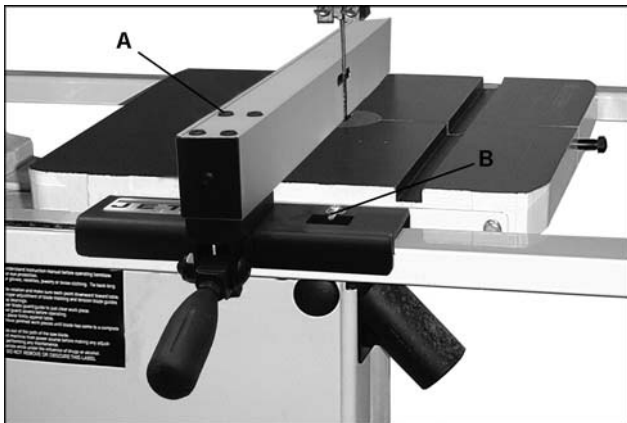

Fig. 7
10. Position the fence along the blade and tighten the handle. To make an adjustment loosen four hex cap bolts (A, Fig. 7) and align the fence with the blade. Tighten bolts.
11. Check to see that the pointer (B, Fig. 7) is aligned with the zero marking on the guide rail. If adjustment is necessary loosen the screw that holds the pointer in place. Adjust as necessary.